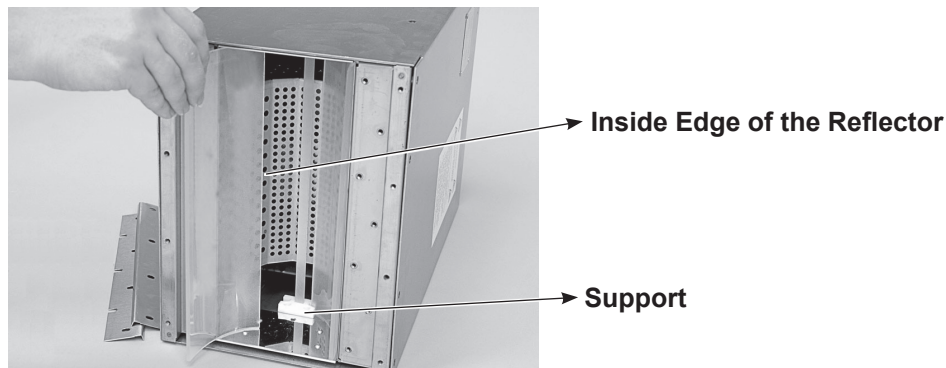

Figure 6-8 Reflector Removal and Replacement
5. See Figure 6-8. Carefully slide the two reflectors from the lamphead base.